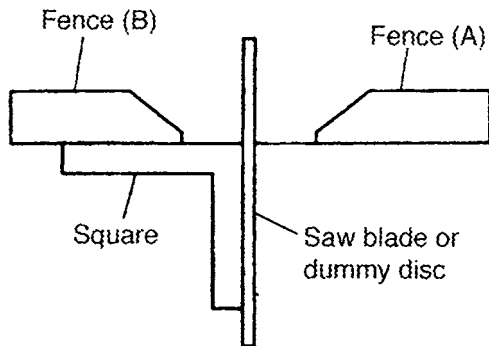

Fig. 44
After disassembly or replacement of the Base Ass'y [169], Turn Table [107], Fence (A) [165], Fence (B) [152] or Hinge [30A], it is necessary to perform necessary adjustment to ensure that the fences are positioned at precise right angles with relation to the saw blade (or dummy disc). Align fence (B) with the saw blade (or dummy disc), and adjust them as necessary to ensure squareness (tolerance: 0.2/100 mm). As shown in Fig. 44, use a square to adjust fence (B) so that it is square with the saw blade. Next, use a straight edge to adjust fence (A) so that it is exactly aligned with fence (B). Finally, use the square to confirm squareness of fence (A) with the saw blade (tolerance: 0.2/100 mm).
(2) Reassembly of the Turn Table [107]